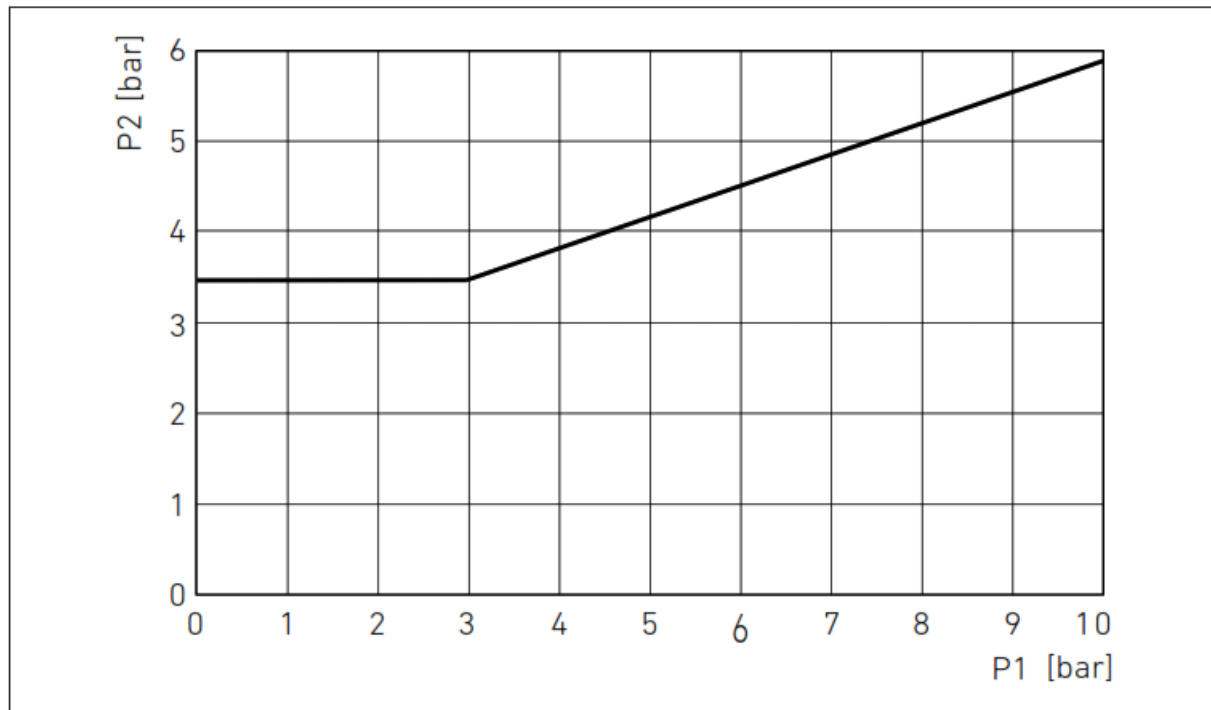

Fig. 8: minimum pilot pressure depending on working pressure
- Apply at least the minimum pressure P_2 illustrated in Fig. 8, which corresponds with the pressure on connections 2 or 4, to the pilot control connection to operate the exhaust module.